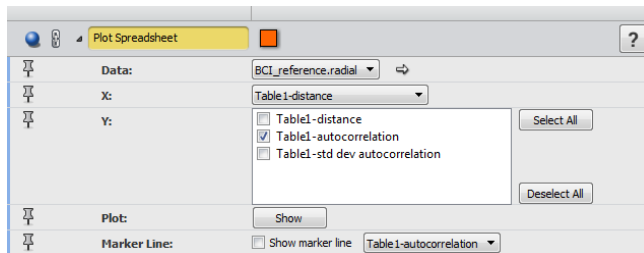

Figure 19.3: Plot Spreadsheet Module Properties
- Attach a *Plot Spreadsheet* module as shown in Figure 19.3